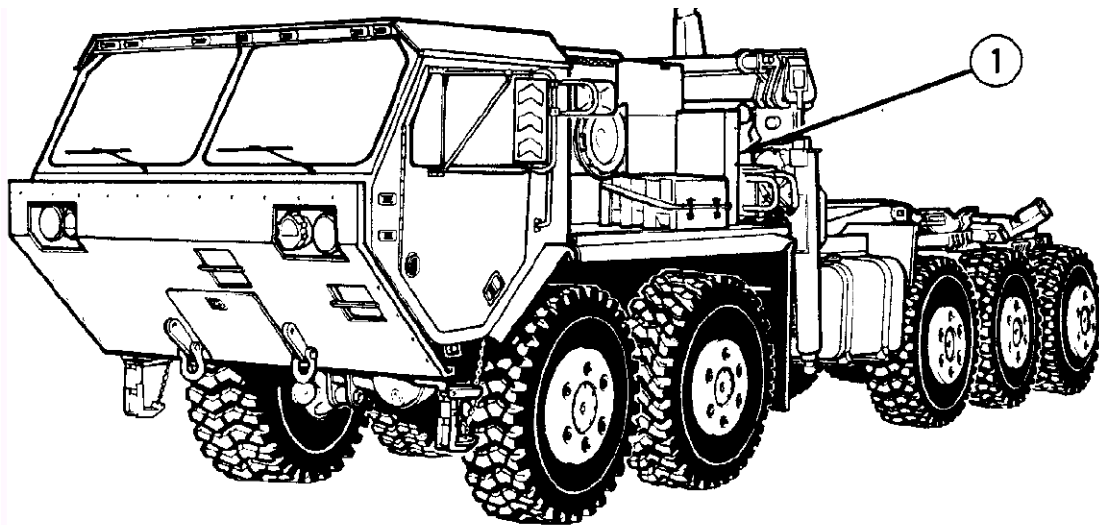
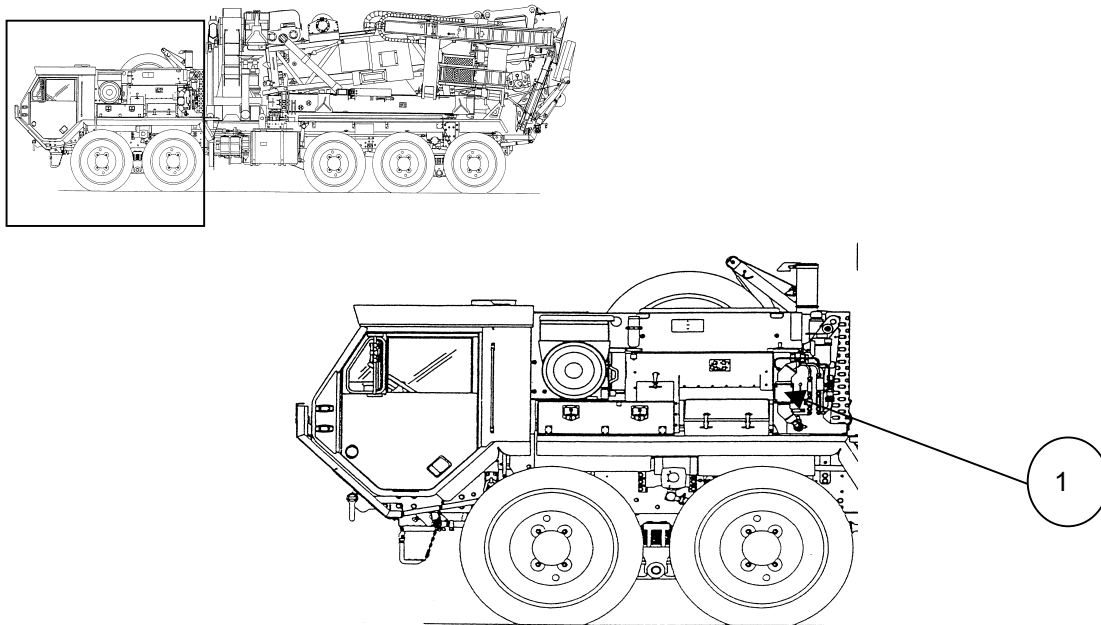

Figure 7.8 Position of Hydraulic Interconnect on PLS Truck
Figure 7.9 Position of Cross Connection Pump on the Launch Vehicle
- 7.22.1.1 Move the truck and launcher into position so that the L/H control box (Figure 7.8 (1)) on PLS truck and cross connection pump (Figure 7.9 (1)) on launch vehicle are side by side if possible. The donor truck should be in a suitable position to allow for safe operation of crane and launcher.